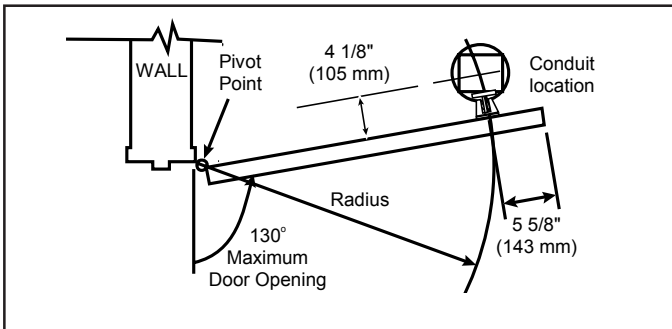

Figure 1. Single Door Conduit Location
1. Measure the door width. Calculate the radius (Figures 1 and 2) by subtracting 5 5/8" from the door width.
2. **Single Door (Figure 1):** Using the radius calculated in step 1, draw an arc (using the pivot point of the door as the center point) through the desired location of the door opening. Open the door and draw a line through the arc 4 1/8" (105 mm) from the pull side of the door.